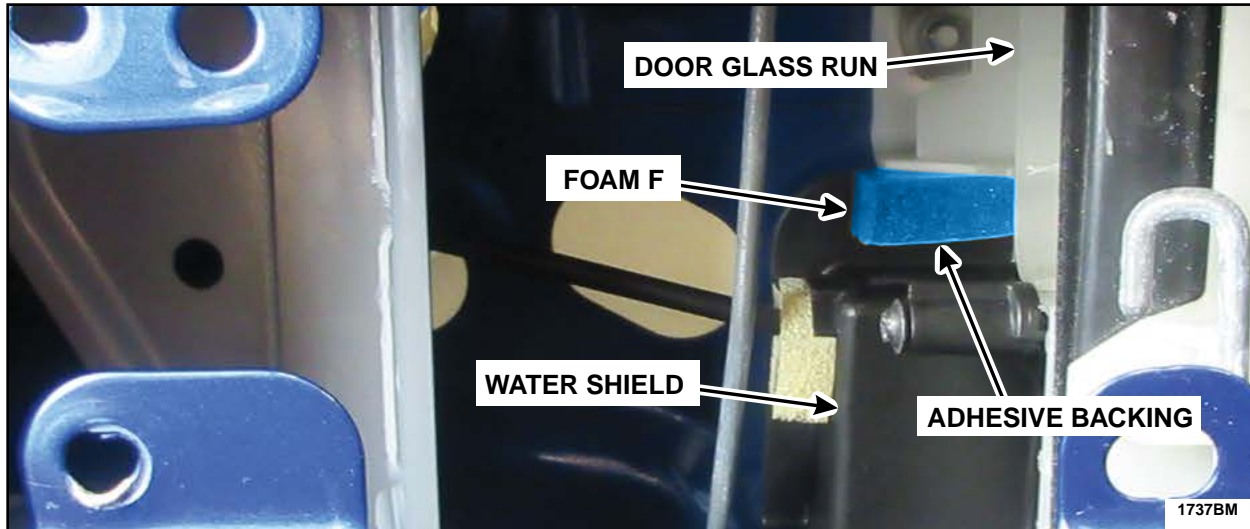

FIGURE 34
5. Using a trim tool, install Foam F between the water shield and the door glass run. See Figure 34.